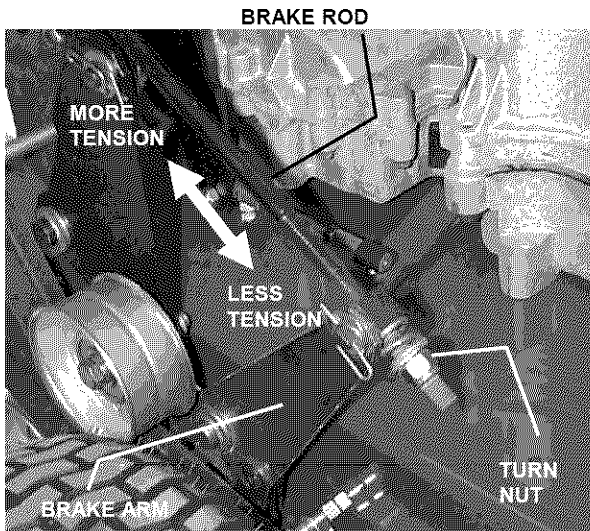

FIGURE 5.1
3. Turn nut clockwise to increase brake tension. See Figure 5.1.
3. Disconnect Brake Rod Swivels from right and left Brake Arms. See Figure 5.1.